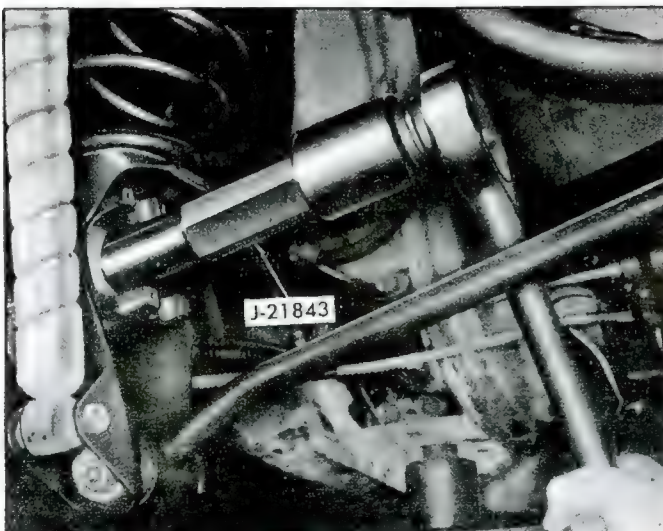

Fig. 67—Installing Wheel Drive Spindle Flange
11. Install Tool J-21843-1 on drive spindle then position J-21843-2 and nut J-21843-3 over J-21843-1. Turn nut against sleeve to pull spindle into inner bearing. Remove tool from spindle (fig. 67).